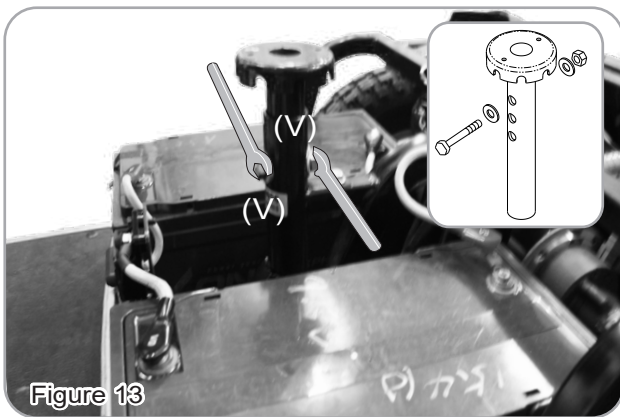

Figure 13
- 2.Remove screw, nut and washer from seat post (V). (Fig 13)
- 3.Adjust seat post (V) to desired height, and attached tightly with screw, nut and washers. (Fig 13)